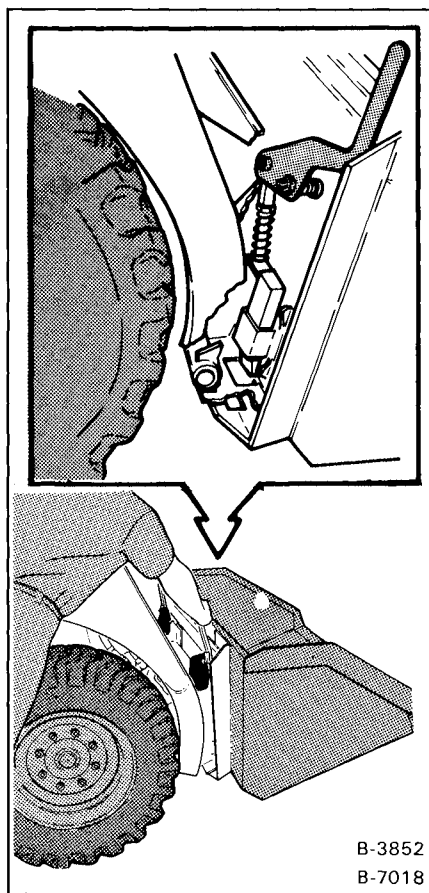

Fig. 31 Locking Bob-Tach Levers
4. Push down on the Bob-Tach levers (Fig. 31) until they are in the locked position.